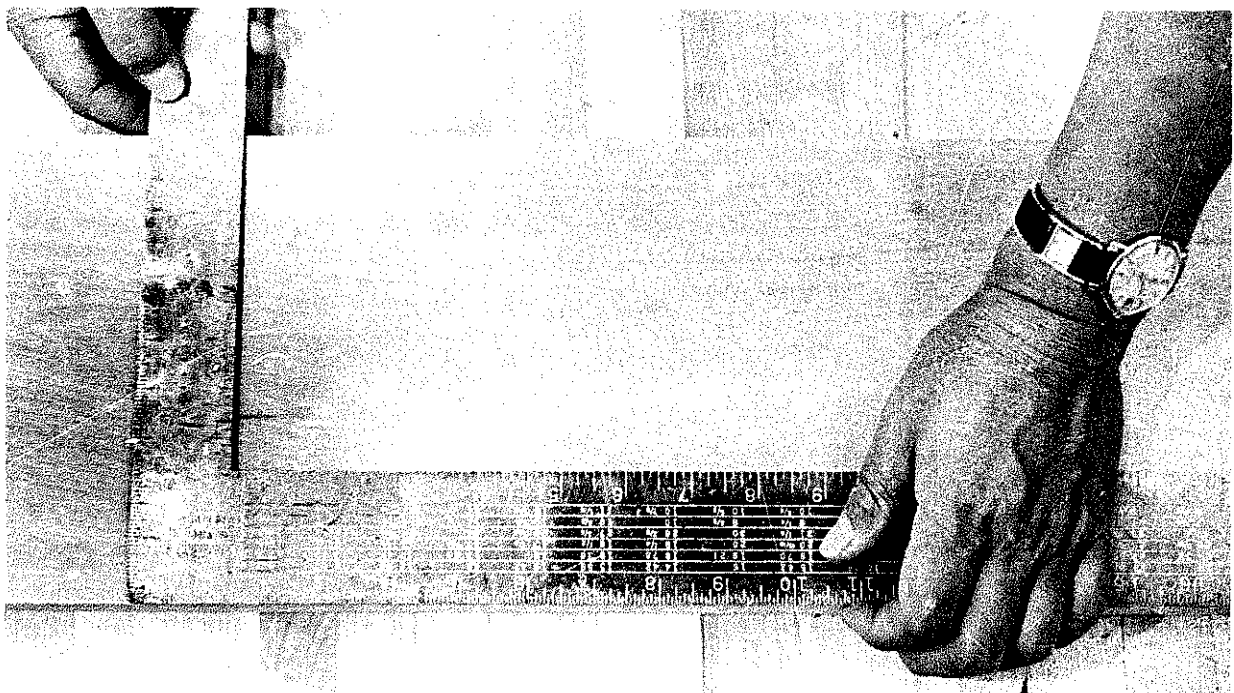

Fig. 3-3 Measuring a width with the steel square
2. Read the graduation on the tongue which meets with the point of measurement. See figure 3-3.